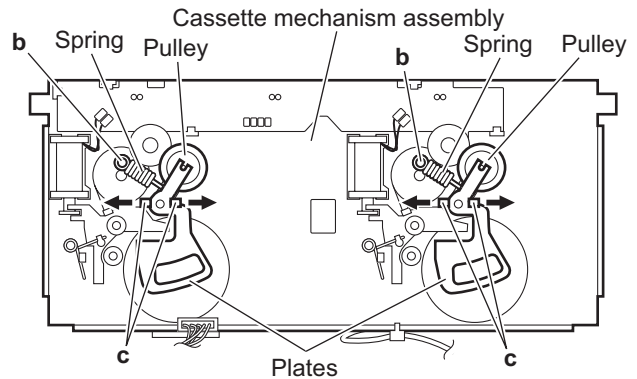

Fig.6
- (4) Remove the springs from the sections **b**. (See Fig.6.)
- (5) Release the claws **c** in the direction of the arrow, remove the plates and pulleys. (See Fig.6.)